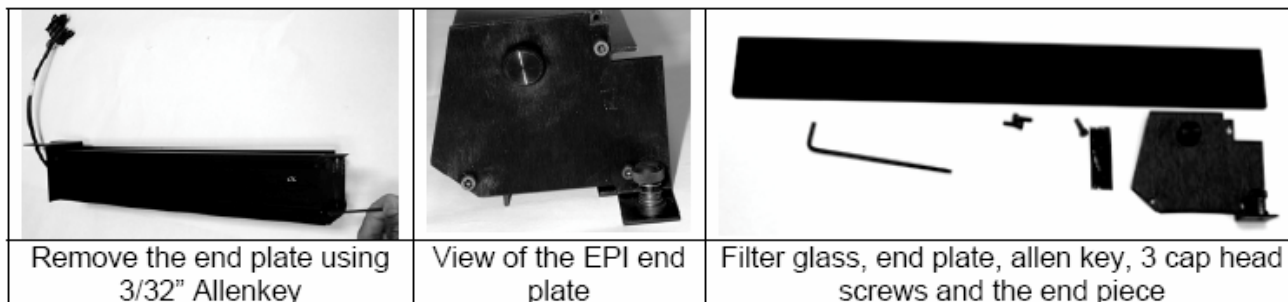

Figure 5.3. Removing epi-modules.
To change an epi-lamp, follow the procedure outlined below (Figure 5.3):
5. Using a 3/32" hex key remove the three screws that secure the front end plate on the epi modules and slide out the end piece and filter glass and set aside for future use (Figure 5.3).